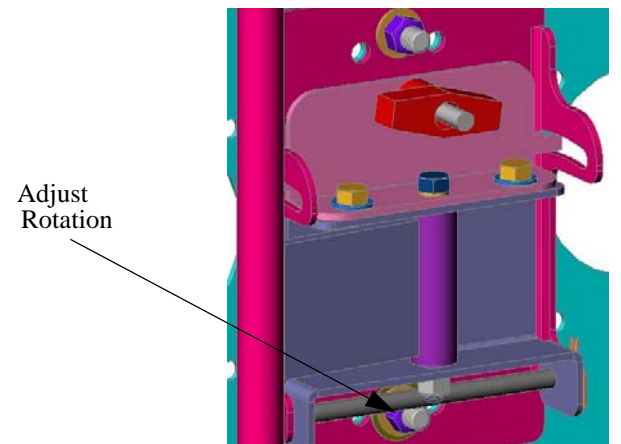

FIGURE 4. ROTATIONAL ADJUSTMENT
1. If necessary, loosen or tighten bottom rotational tilt tension adjustment nut (see Figure 4).